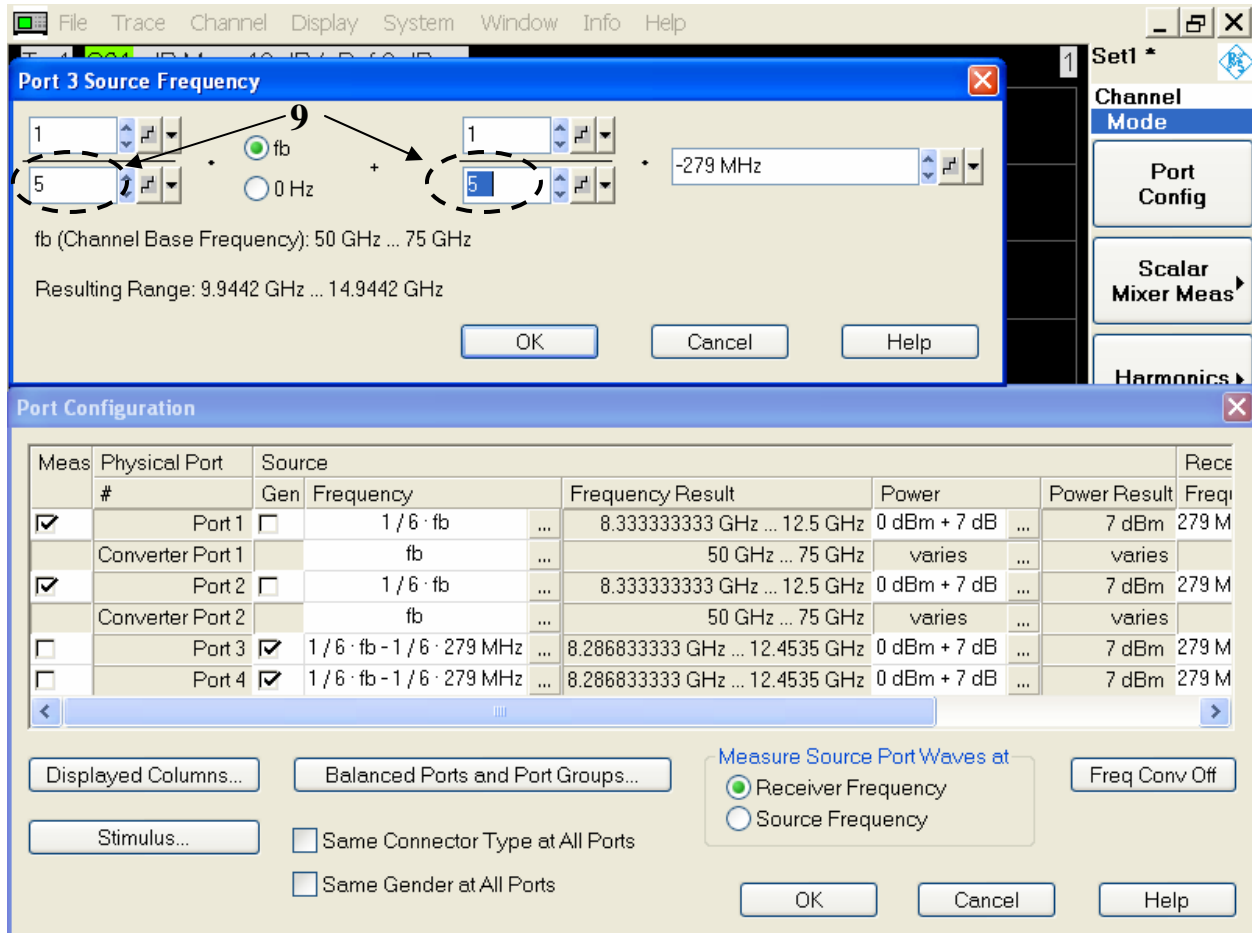

Figure 5 – Modifying LO Port Multiplication Factor in Configuration Table
- Use the up/down arrow key or the **DATA ENTRY** key pad to change the multiplication factor from 6 to 5 in both cells. This will automatically change Port 4 Source Frequency multiplication factor (Figure 5).